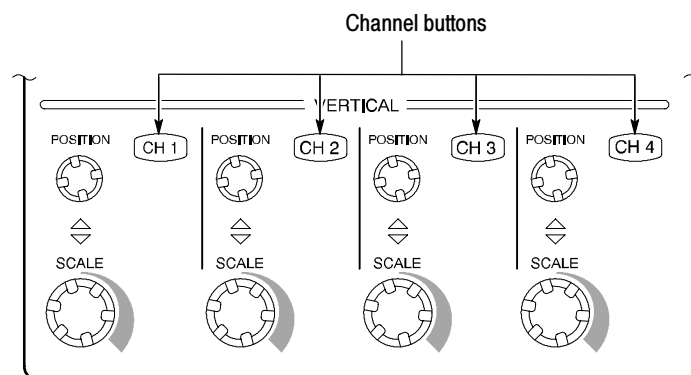

Figure 4-4: Channel button location
5. *Turn off all channels:* If any of the front-panel channel buttons are lighted, push those buttons to turn off the displayed channels. See Figure 4-4.